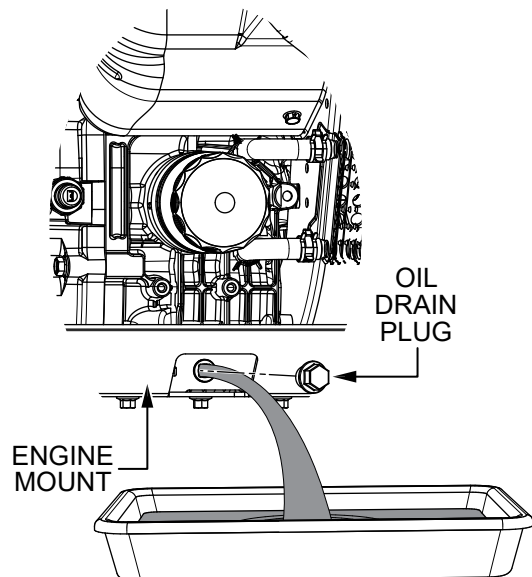

Figure 31. Draining The Engine Oil
5. Remove the **oil drain plug** (Figure 31) and allow the oil to drain into a suitable container.